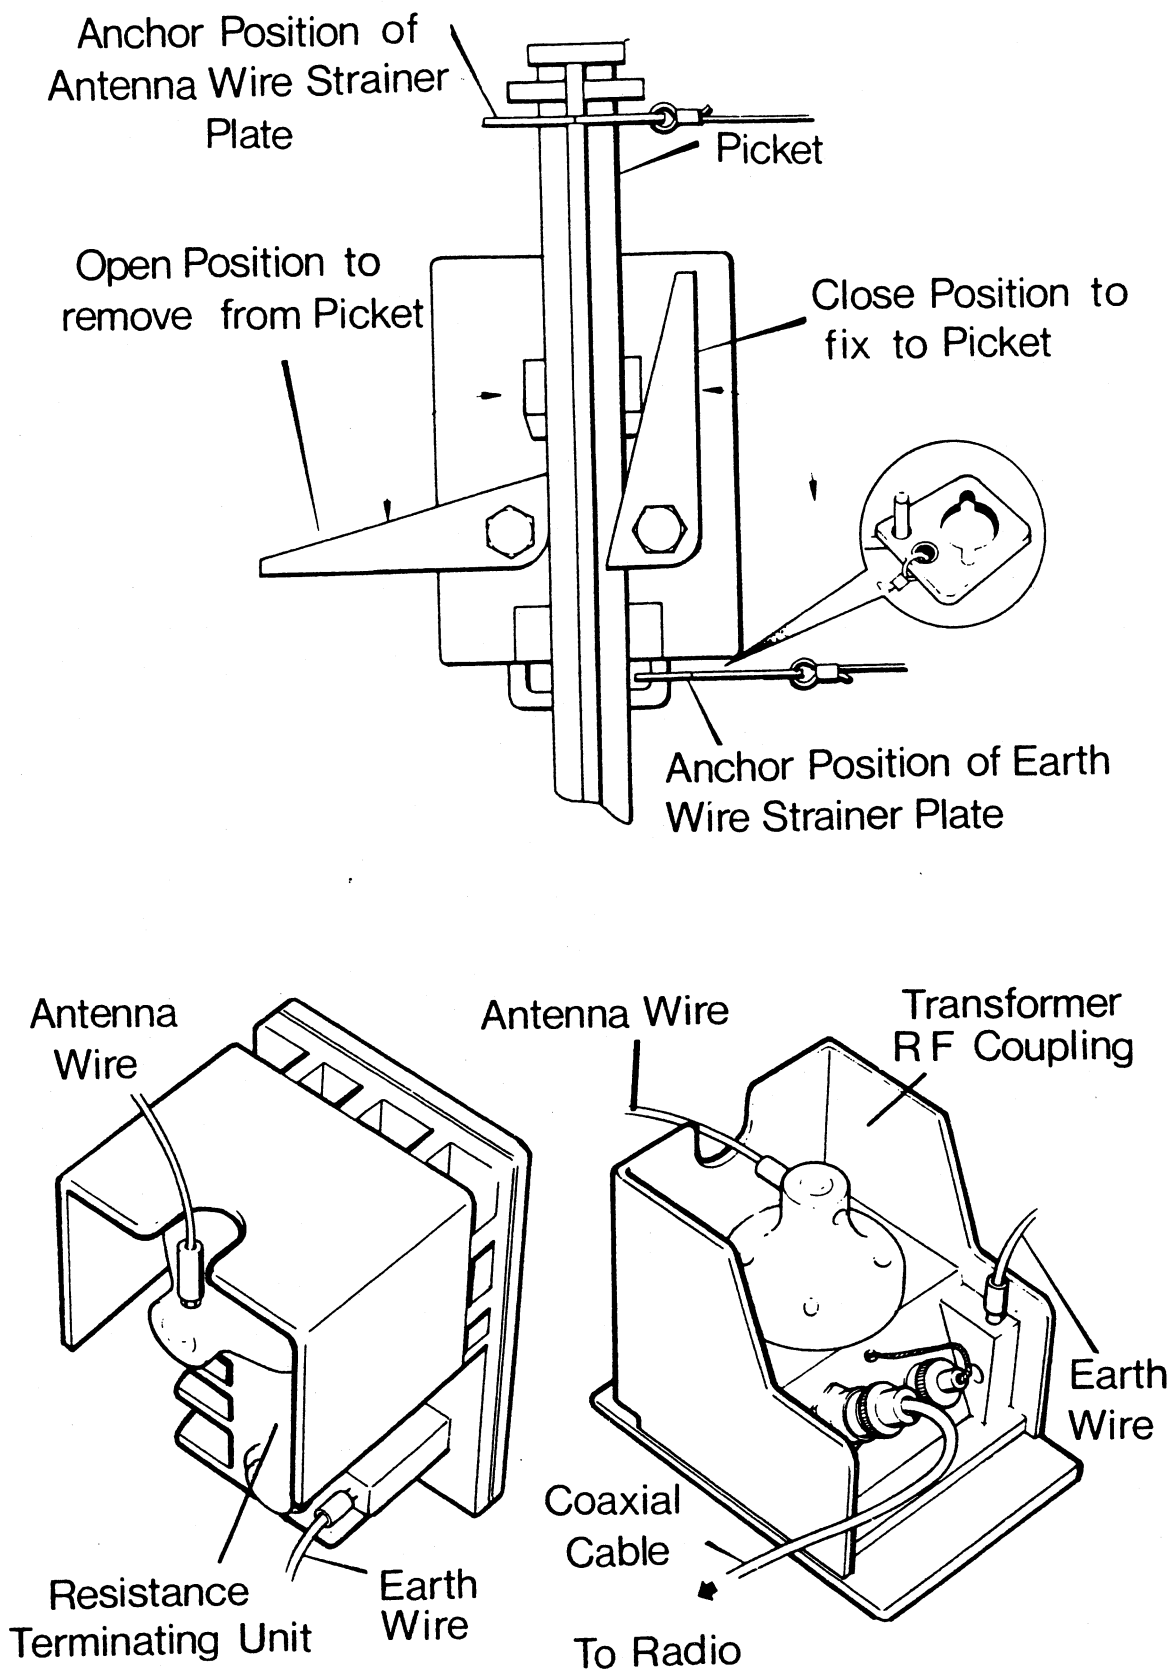

Fig 95.—Transformer and Resistor Unit for Inverted 'V' Antenna
- g. Pull the antenna wire taut by placing the plastic strainer plates over the pickets and drive the pickets into the ground with the flat face nearest to the mast (*Fig 95*).
- h. Fit both ends of the earth wire to the pickets by hooking the hole of the plastic strainer over one side of the U-shaped stop on the pickets (*Fig 95*). The earth wire will now be loose, this looseness should be taken up using a sheep shank knot and not coiled.
- k. Connect the earth and antenna wires to the appropriate terminals on the transformer and resistance units (*Fig 95*).
- (1) For the PRC 351, PRC 352 and VRC 353 radios, connect the straight plug on the 6m cable to the 15m cable via the adaptor and connect the right angle plug on the 6m cable direct to the antenna socket on the radio ensuring the cable strainers are used for security.
- (2) To adapt the antenna for use with the PRC 350, the 400mm cable supplied with the *Ground Spike Antenna* must be connected between the radio and the 6m cable.